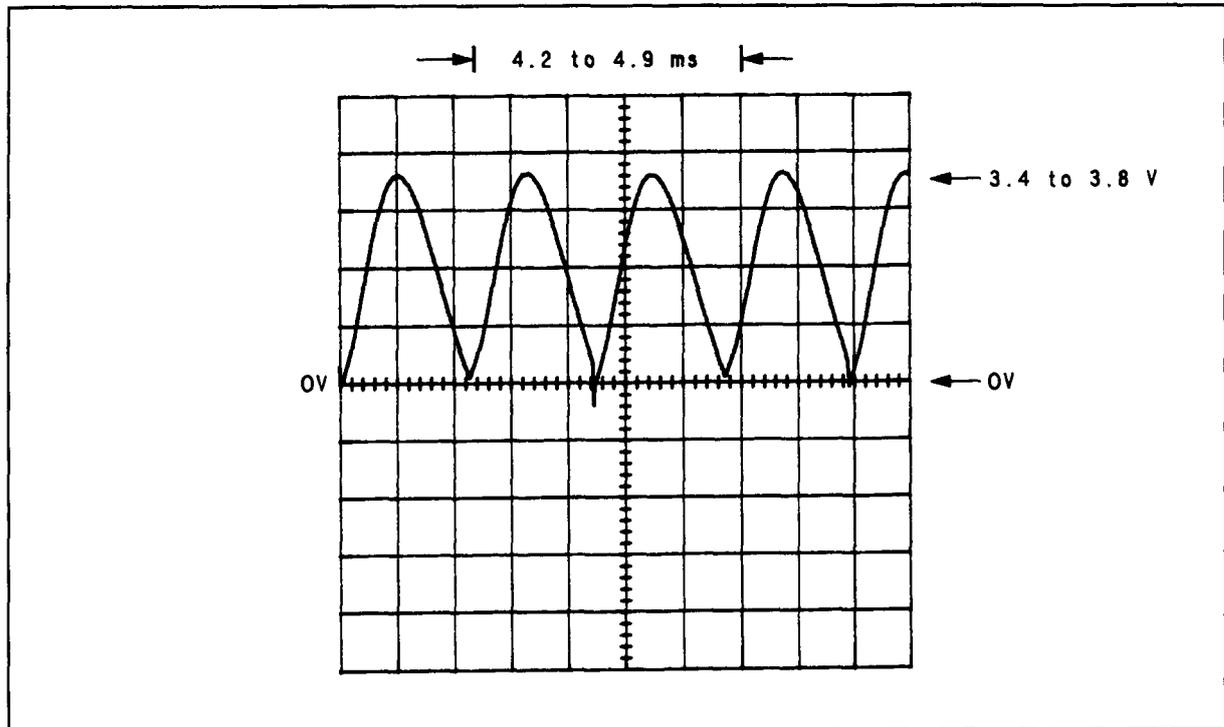

Figure 8F-6. Waveform for √3 Step 3
2. Connect a high-impedance, ac coupled oscilloscope to A53TP1 (AC). The display should be as shown in the figure for step 8 of the √2 Amplifier 1, Attenuator 2, Amplifier 2, and Amplifier 3 Check.
3. DC couple the oscilloscope and connect it to A53TP2 (Φ DET). The waveform should appear as shown in Figure 8F-6.